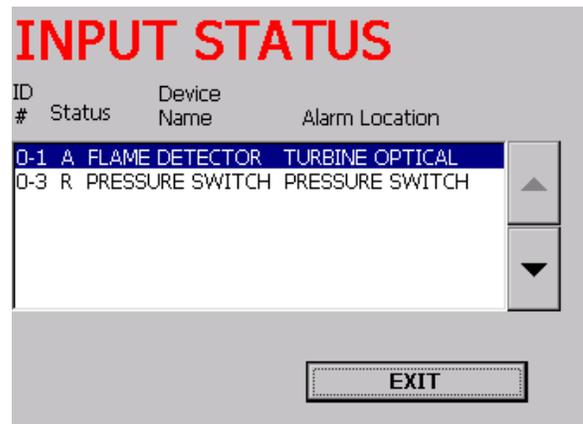

FIGURE 16.4 Input status menu indicating two alarm inputs from the configuration named “Dual Release”.
### 16.11 FIRE ALARM MENU ITEMS (FIGURE 16.4)
□ Figure 16.4 indicates when the first timer expired. If the pressure switch does not change state within 7 seconds, the second time is truncated and the reserve tank trips. In this example, the pressure switch is connected to node ID #0, channel 3, figure 9, and is activated shortly after the first timer expires. At this point in time, this action is recorded as a second alarm input. The reserve timer will continue to countdown until T=0 and the second tank trips.